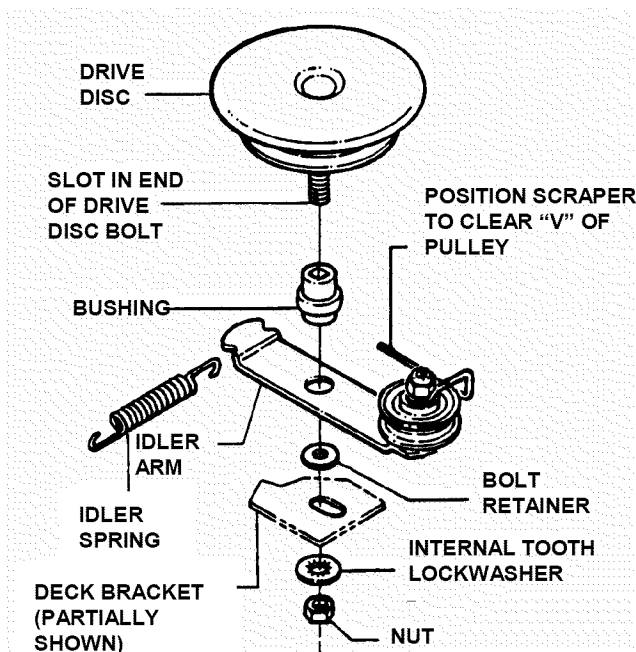

FIGURE 4.16
5. Hold the slotted end of the drive disc bolt with a screwdriver and remove the nut and internal tooth lock washer. See Figure 4.16.
7. Loop one end of new belt over engine pulley and insert the other end through slot in deck. See Figure 4.16.